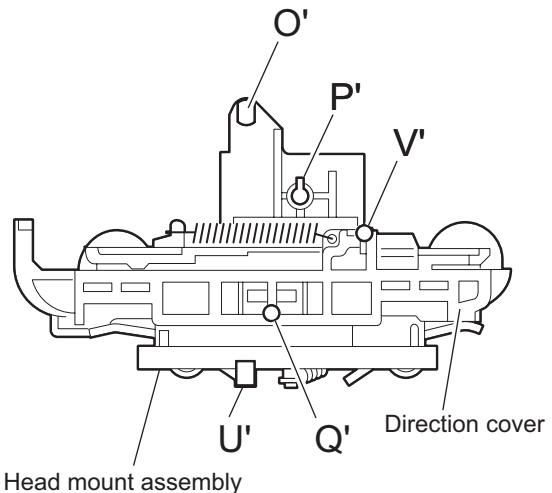

Fig.11
(See Fig.11~13)
(1) Reattaching the head mount assembly.
- Fit the bosses O', P', Q', U' and V' on the head mount assembly to the holes P and V, the slots O, U and Q of the mechanism sub assembly (See Fig.11 to 13).